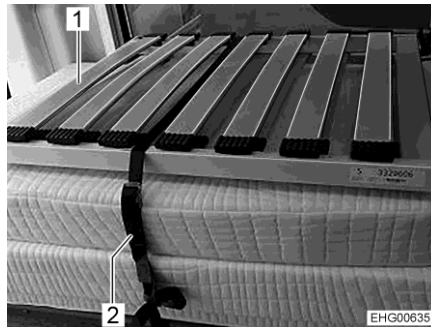

Fig. 37 Rear bed (transport position)
- Release the retaining belt (Fig. 37,2).
- Place the bed bases (Fig. 37,1) one behind the other above the central aisle (on the strips on the bottom cupboard).
- Stack the cushions and bed bases on the left-hand bottom cupboard as shown in Fig. 37.
- Secure the cushions and bed bases with the retaining belt (Fig. 37,2). In order to do this, pull the retaining belt through the eyelets provided and loop it around the cushions and bed bases.